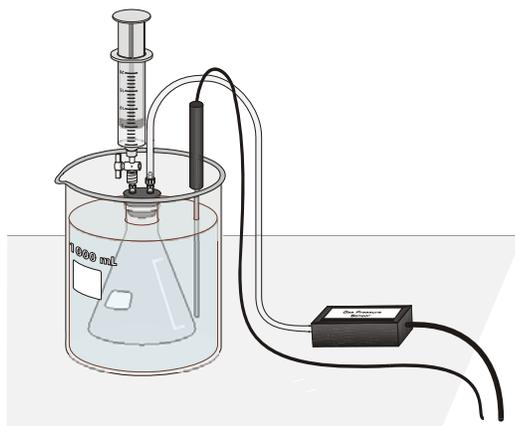

Figure 1
5. Use the clear tubing to connect the white rubber stopper to the Gas Pressure Sensor. (About one-half turn of the fittings will secure the tubing tightly.) Twist the white stopper snugly into the neck of the Erlenmeyer flask to avoid losing any of the hydrogen gas that will be produced in the reaction (see Figure 1). **Important:** Close the valve on the white stopper by turning the white handle so it is perpendicular with the valve stem.
6. Obtain a small amount of 3.0 M hydrochloric acid. **CAUTION:** *Handle the hydrochloric acid with care. It can cause painful burns if it comes in contact with the skin.* Draw 5 mL of HCl solution into the 20 mL syringe. Thread the syringe onto the two-way valve on the white stopper (see Figure 1). Submerge the Erlenmeyer flask into the water bath. Position the Temperature Probe in the water bath so that the tip of the probe is not touching the beaker.